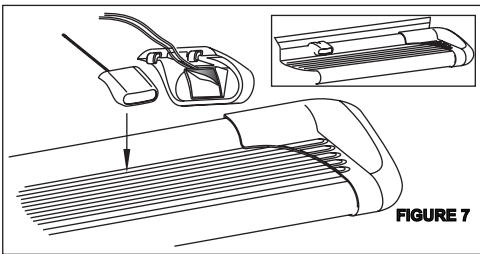
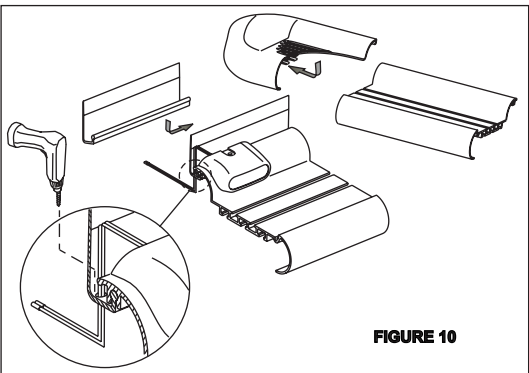

FIGURE 7
FIGURE 10
STEP 6. For Sure-Grip Running Boards, slide closure strip as shown. Set lights (if purchased) in appropriate location. Attach to Sure-Grip Running Board as shown. **SEE FIGURE 7.** Drill hole through plastic strip and run wires as shown. **SEE FIGURE 10.**